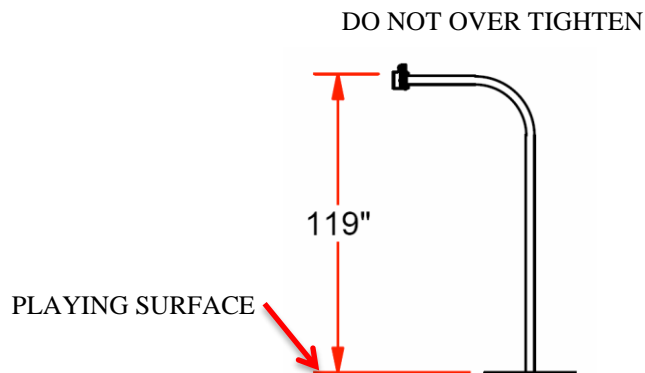

Figure 3
2. Measure and set 119" to the top slot from the playing surface see figure 3.